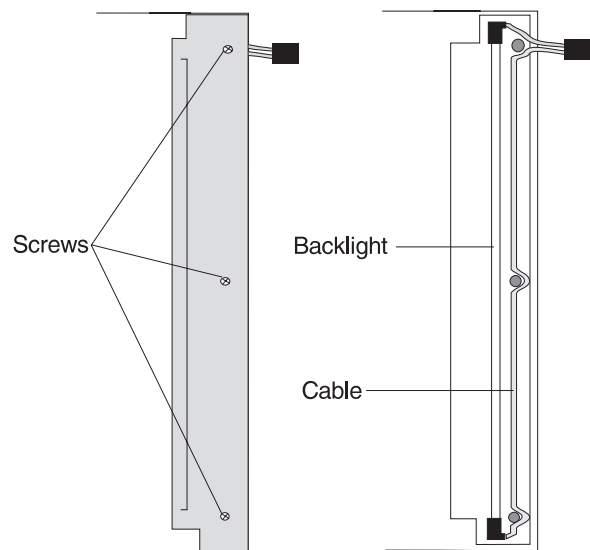

Figure 3-29. Removing the Monochrome Backlight
- 9 Install the new backlight with the cable routed as shown in Figure 3-29. Continue at step 13 on page 3-38.